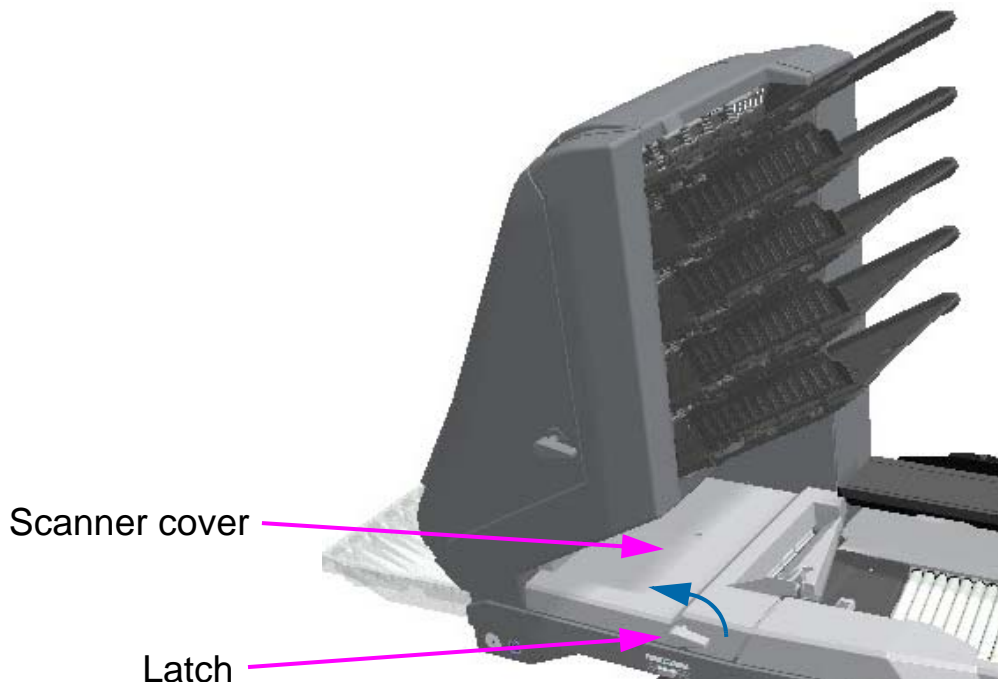

Figure 4-36: Access Scanner
1. Turn the latch counterclockwise to release the scanner cover. The scanner cover will swing to the open position (Figure 4-36).